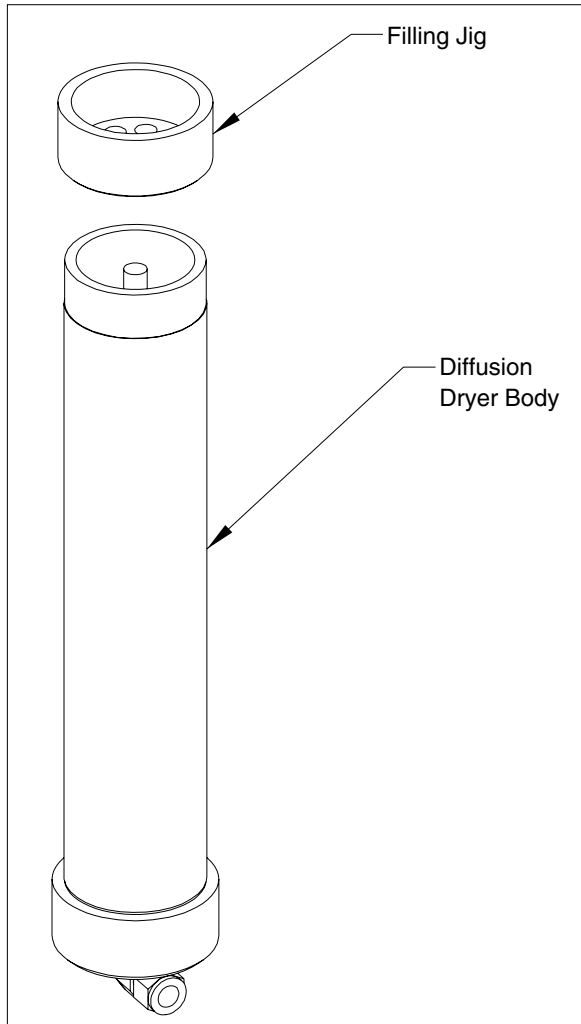

Figure 3
3. Install the filling jig on the inlet making sure that the mesh tube is covered by the center of the jig (see Figure 3).